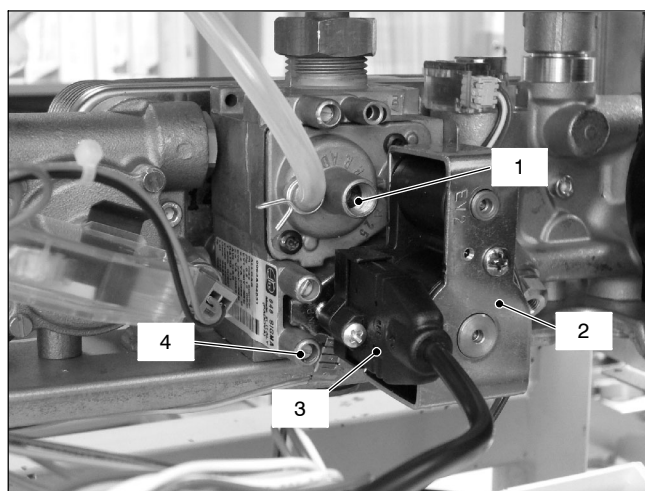

Fig. 11.2
### 11.2 Description of the parts (Fig. 11.2)
- 3 Loosen the internal screw on the Inlet Pressure Test Point 4 (Fig. 11.2) of the Gas valve and connect a pressure gauge using a suitable hose.
- 10 Disconnect the pressure gauge and close the Inlet Pressure Test Point 4 (Fig. 11.2).
- To adjust the CO2 % value remove the brass plug by unscrewing it and rotate the plastic screw 1 (Fig. 11.2) (by rotating it clockwise the CO2 % increases).
- 27 After adjustment fit the protective brass plug (1, Fig. 11.2).
- 2 Disconnect the electrical connector 3 (Fig. 11.2).
- 8 Remove the brass plug and turn the plastic screw 1 (Fig. 11.2) fully clockwise until it stops. Do not overtight.